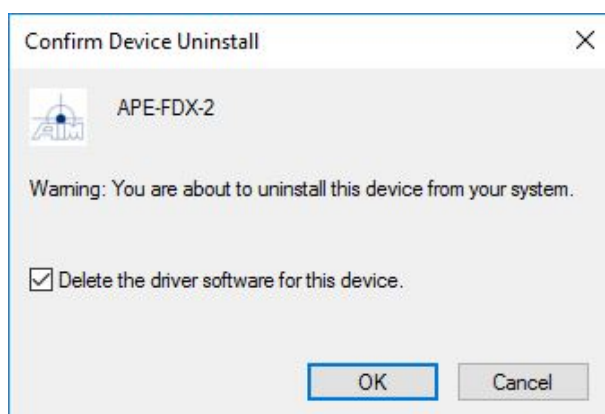

Figure 3: Device Manager: confirm device uninstall
3. Now confirm the device uninstall. When available, select '*Delete the driver software for this device*' as shown in figure 3